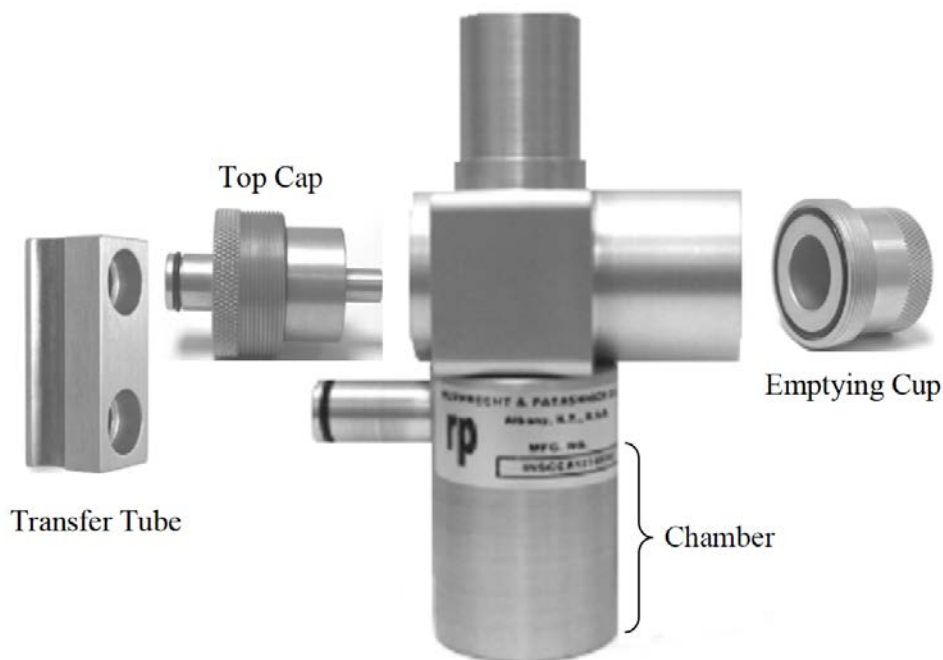

Figure 5-5. Exploded view of VSCC components (Vaughn and Ray, 2011).
1. Remove the top cap and the emptying cup as shown in Figure 5-5.